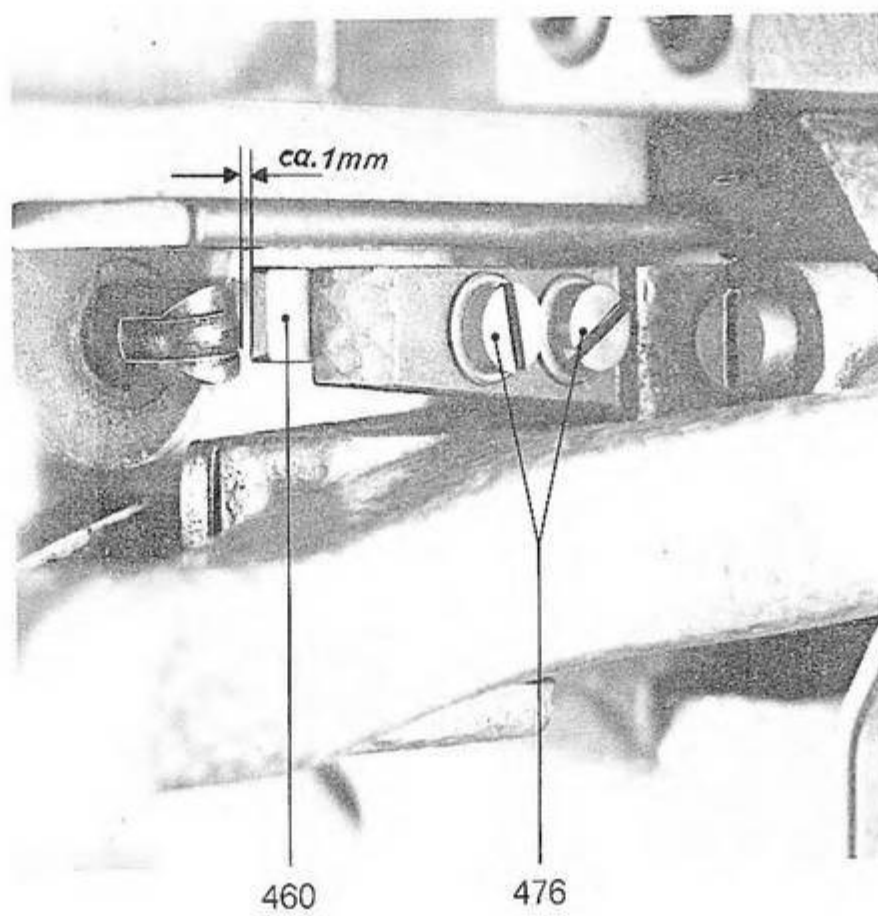

Fig. 127
17. Loosen the screw 476 and set the cam 460 (fig. 127) usually so that with the machine being in its disengaged position the distance between the roller and the slope of the cam 460 amounts to about 1 mm.